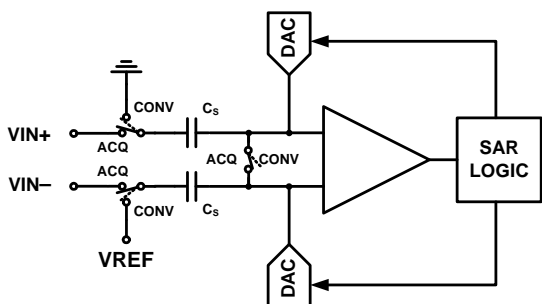

FIGURE 21. SAR ADC ARCHITECTURAL BLOCK DIAGRAM
The ISL267440, ISL267450A are based on a successive approximation register (SAR) architecture utilizing capacitive charge redistribution digital to analog converters (DACs). Figure 21 shows a simplified representation of the converter. During the acquisition phase (ACQ) the differential input is stored on the sampling capacitors (CS). The comparator is in a balanced state since the switch across its inputs is closed. The signal is fully acquired after t_{ACQ} has elapsed, and the switches then transition to the conversion phase (CONV) so the stored voltage may be converted to digital format. The comparator will become unbalanced when the differential switch opens and the input switches transition (assuming that the stored voltage is not exactly at mid-scale). The comparator output reflects whether the stored voltage is above or below mid-scale, which sets the value of the MSB. The SAR logic then forces the capacitive DACs to adjust up or down by one quarter of full-scale by switching in binary weighted capacitors. Again, the comparator output reflects whether the stored voltage is above or below the new value, setting the value of the next lowest bit. This process repeats until all 12 bits have been resolved.